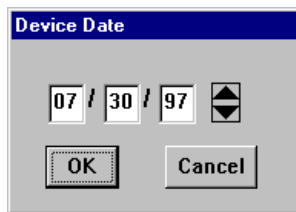

Figure 2-11. Edit Date Window
1. Click on **Device** on the Module View window menu bar to access the Device menu, drag down to **Edit Device Date...**, and release. The following change window, Figure 2-11, will appear.